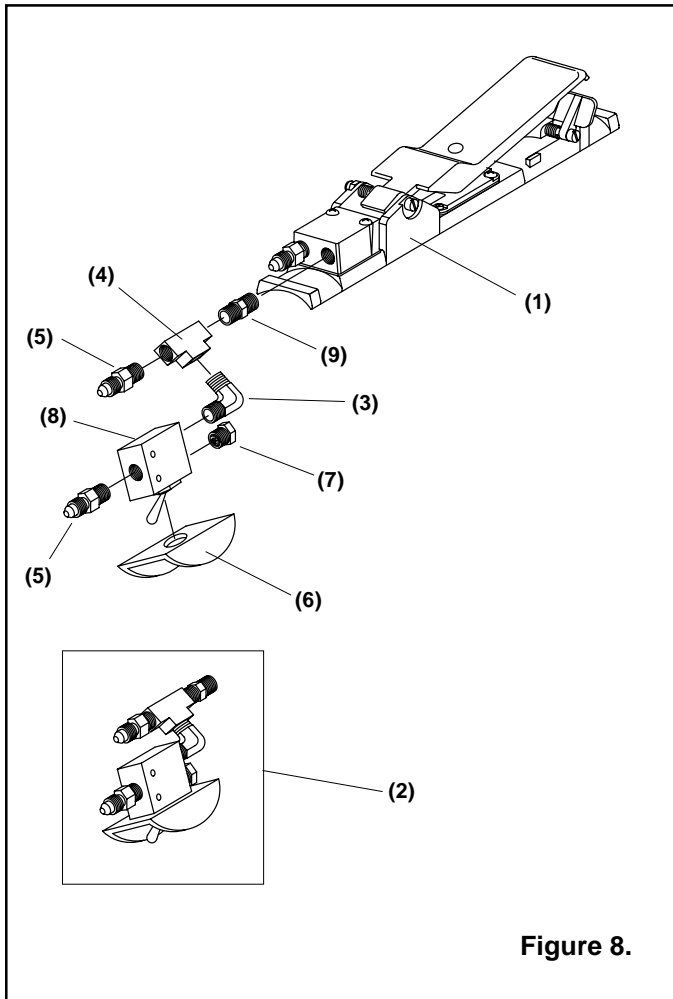

Figure 8.
**7.2 RLX Pneumatic handle with ACS, Figure 8**